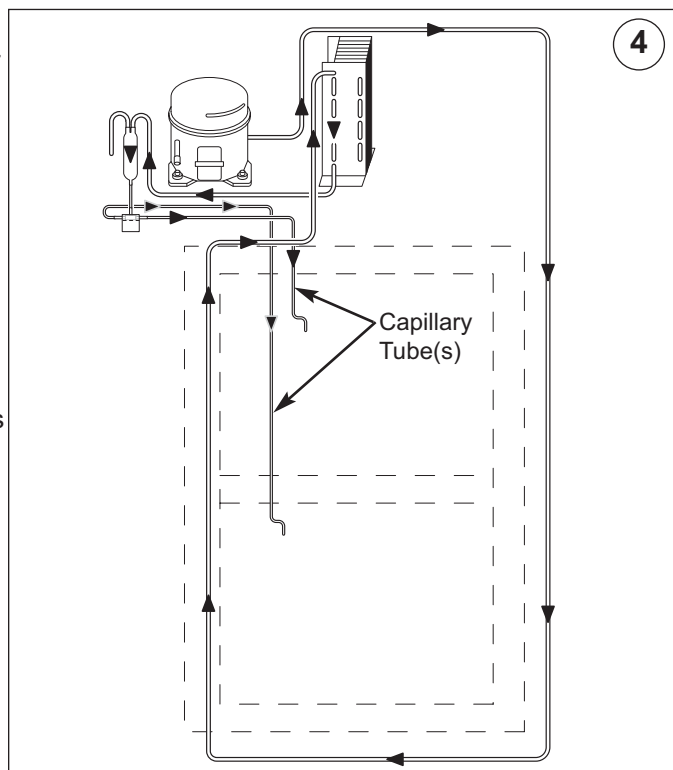

Fig. 4-10. Capillary Tube(s)-Part of Heat Exchangers
(4) - Capillary Tube(s) (Figure 4-10)